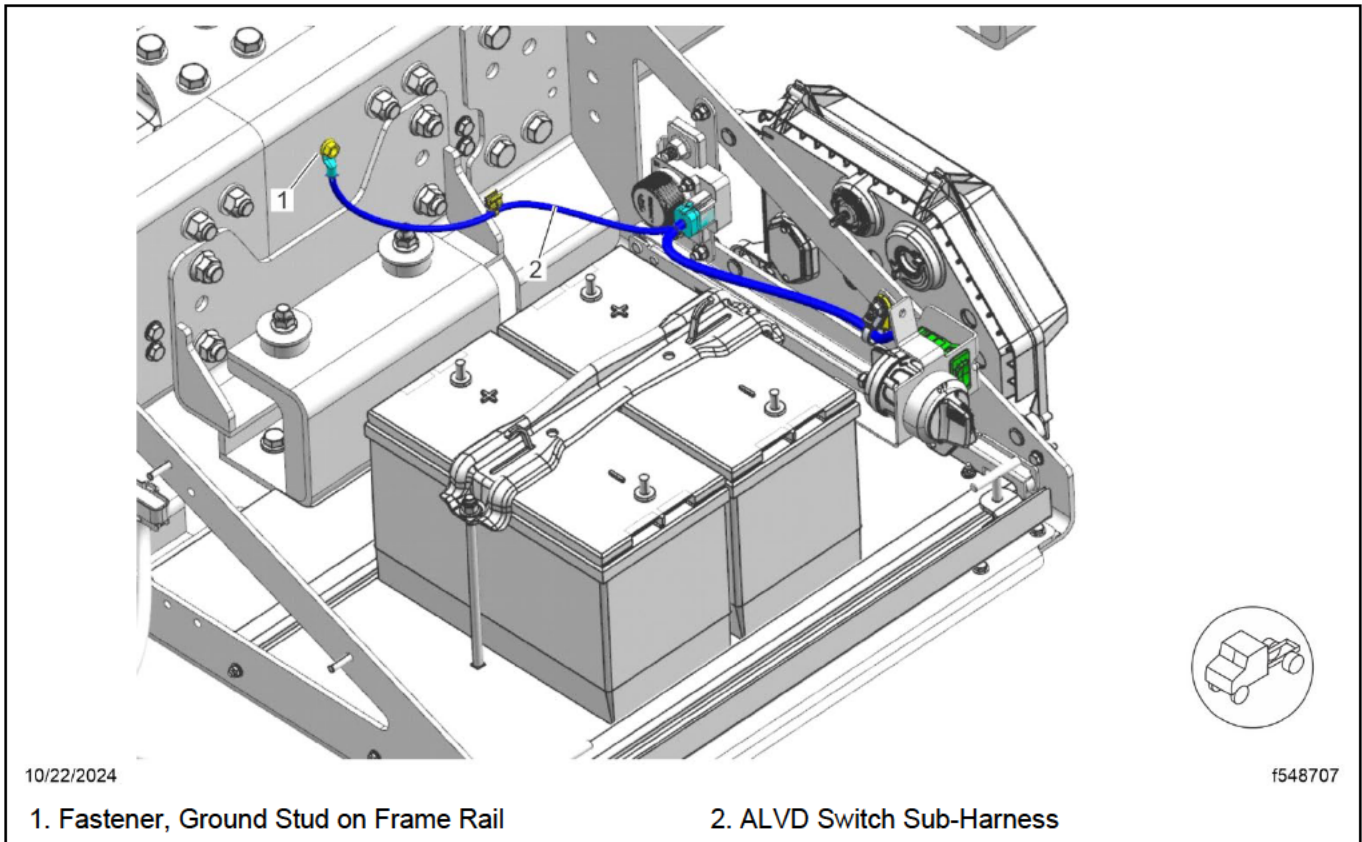

Fig. 9, Installation of the ALVD Switch Sub-Harness
21. Install the ALVD switch sub-harness. For detailed instructions, see drawing D66-32710-000. Tighten the ground stud fastener, item 1 in Fig. 9, on the frame rail 37 lbf-ft (50 N·m). Apply varnish to the ground stud.